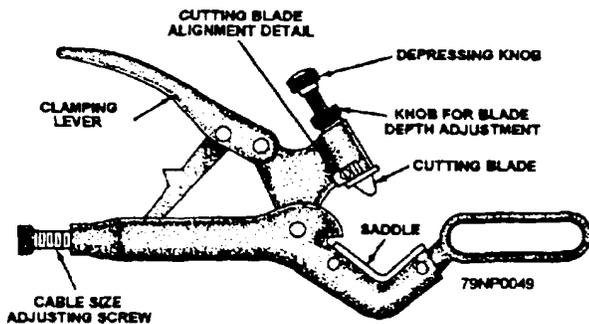

Figure 2-3.—Cable stripper.
2. Next the armor, if installed, must be removed. Use a cable stripper of the type shown in figure 2-3. Be careful not to cut or puncture the cable sheath where the sheath will contact the rubber grommet of the nylon stuffing tube (fig. 2-4). The uses and construction of stuffing tubes will be described later in this chapter.